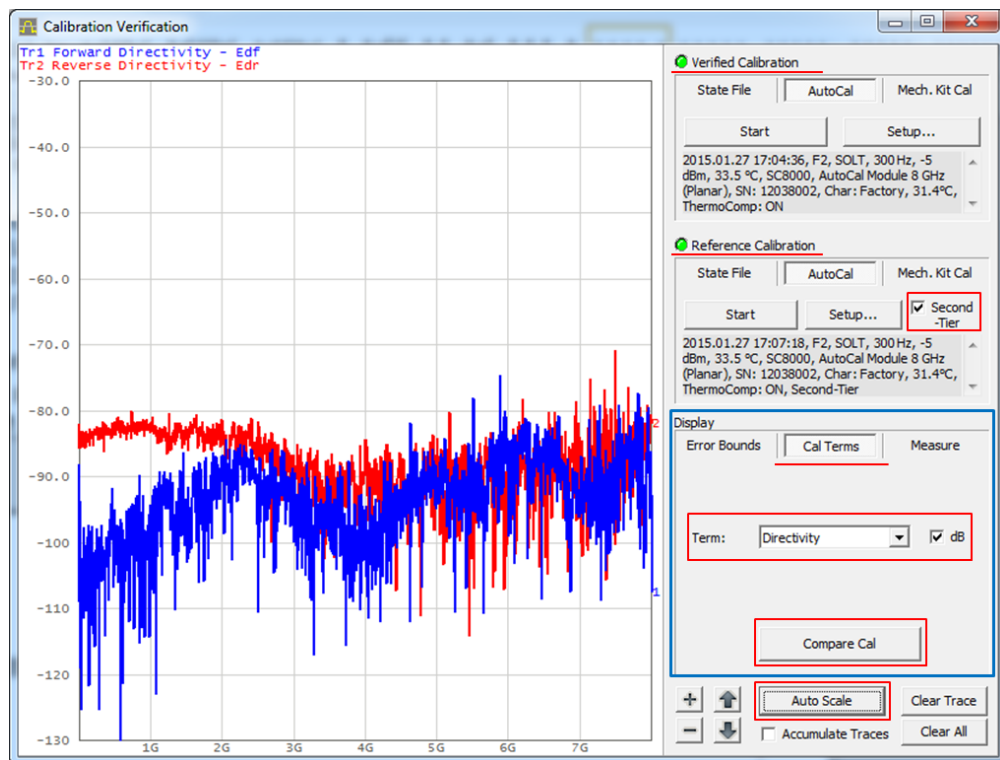

Figure 8. Typical directivity stability
6.3.1.5 When verified and reference calibrations are complete, verify that the Module parameters listed in Table 6 are within the stability limits in the operating frequency range. See Figures 8 and 9 for examples of measurement results obtained with the performance test program. Enter measured values (the closest to stability limit) into the corresponding cell of the Table 6.